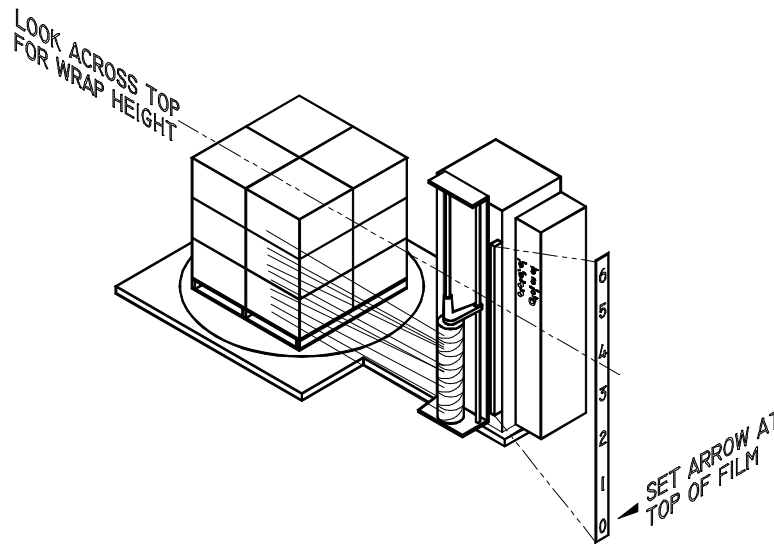

Fig. 9
- 6) Position the magnetic strip on the elevator so that the arrow is at the top of the film roll (see fig. 9).